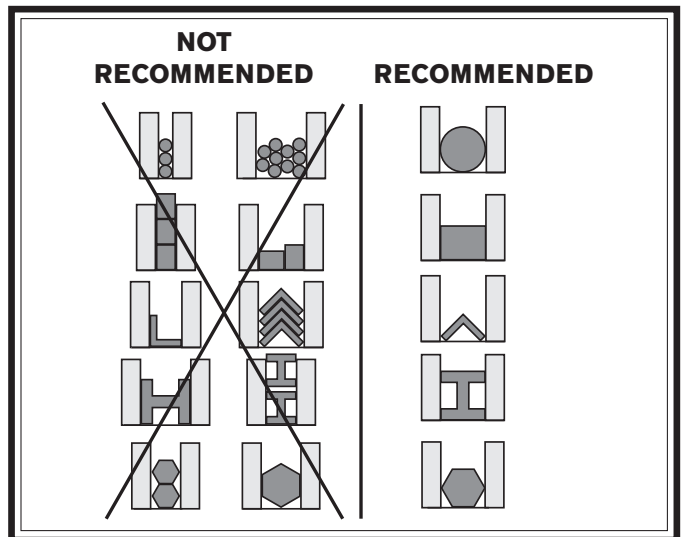

Figure 39. Workholding options by material shape.
5. Tighten the vise against the workpiece. **Figure 39** shows the correct methods for holding different workpiece shapes.